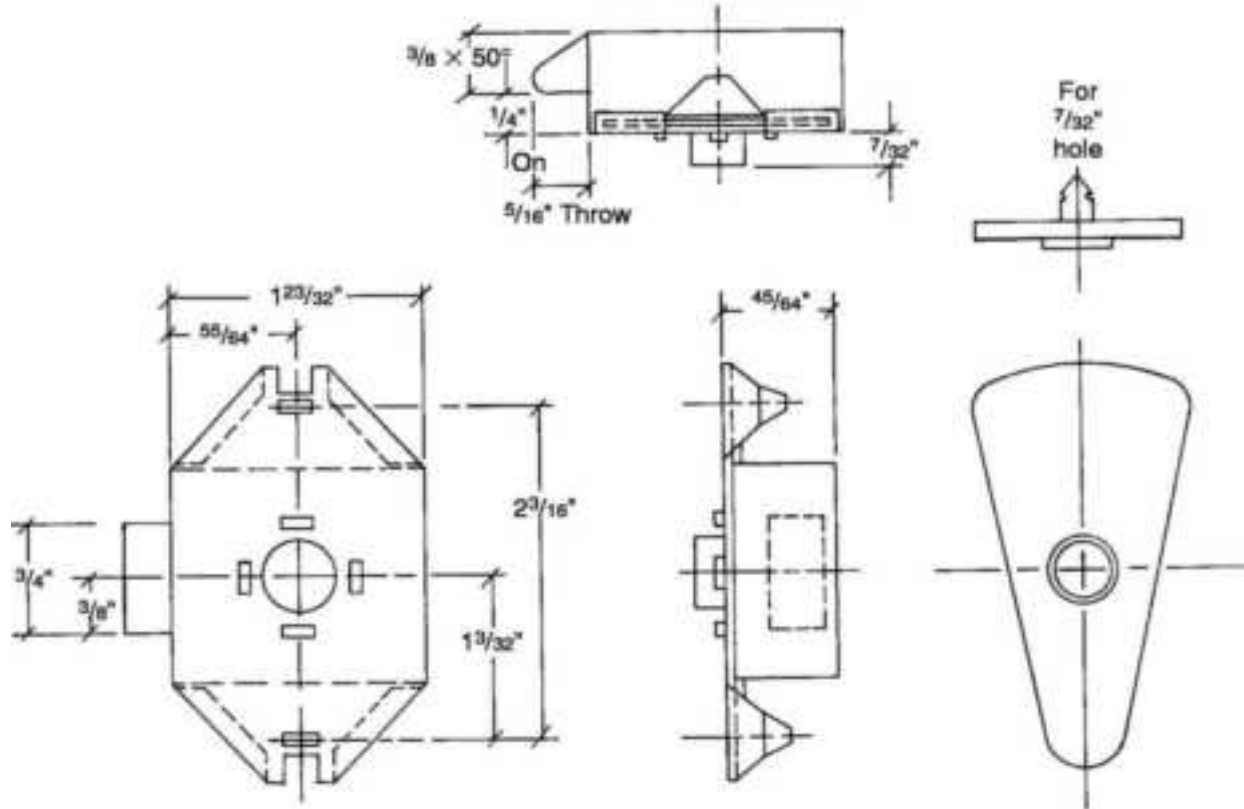

**Figure 5.13** Series 6000 torsion tumbler lock with inset illustrating the snap-on face plate. (*Lock Corporation* )
**Series 6000 and 7000.** The 6000 and 7000 series have a patented snap-on face plate for installation (Fig. 5.13 ). Technical drawings for the snap-on installation are in Fig. 5.14 , along with the locker door hole punchings. Note that the series 6000 has a springbolt, while the 7000 operates with a deadbolt.